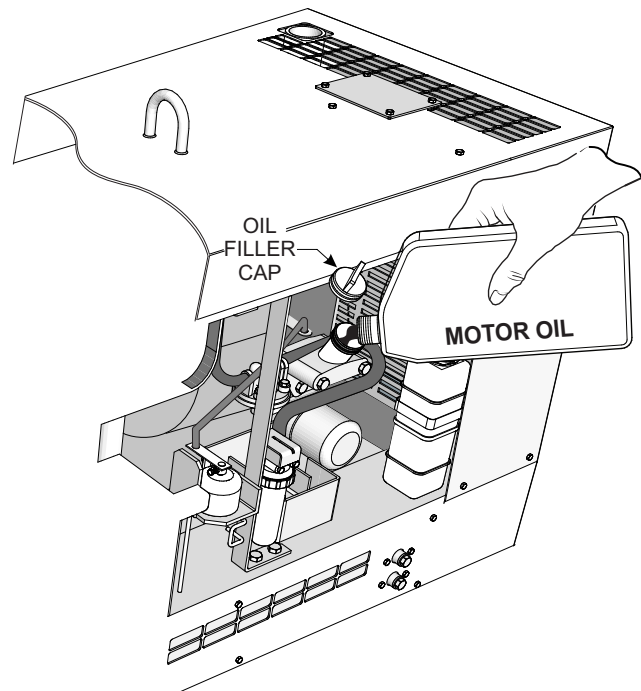

Figure 15. Engine Oil Filler Port
5. If the engine oil level is low (Figure 14C), remove the oil filler cap (Figure 15) and fill to a safe operating level (max) as indicated by the dipstick (Figure 14A).